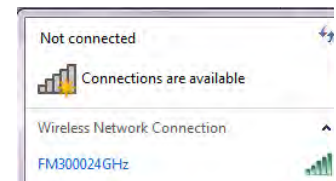
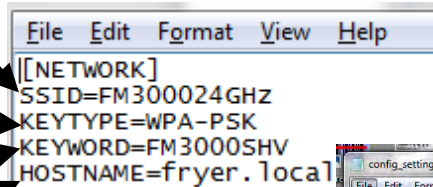

Figure 1
Figure 8
2. Ensure the computer that will be used to display the dashboard is connected to the same network that the fryer will communicate with (see Figure 1).
12. Locate the SSID name from the router (see Figure 1) and enter into SSID field (see Figure 8). It is **case sensitive**; enter the SSID **exactly** as it is displayed on network settings.
13. Enter the security type in the KEYTYPE field (see Figure 8).
14. Enter the network password in the KEYWORD field (see Figure 8).